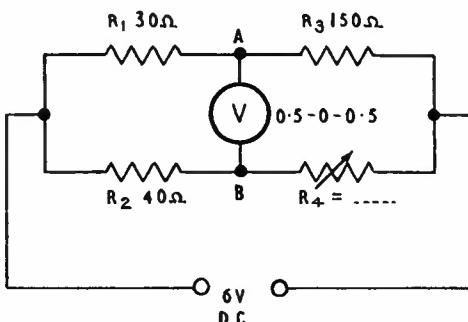

FIG. 1.
STEP 1. Connect the circuit as shown in Fig. 1.
STEP 2. Adjust the decade box until the P.D. between points A & B is zero. Record the resistance value on Fig. 1.